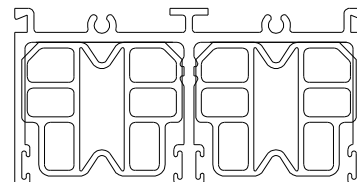

Figure 25:
3. Install head bumpers into head (Figure 25).